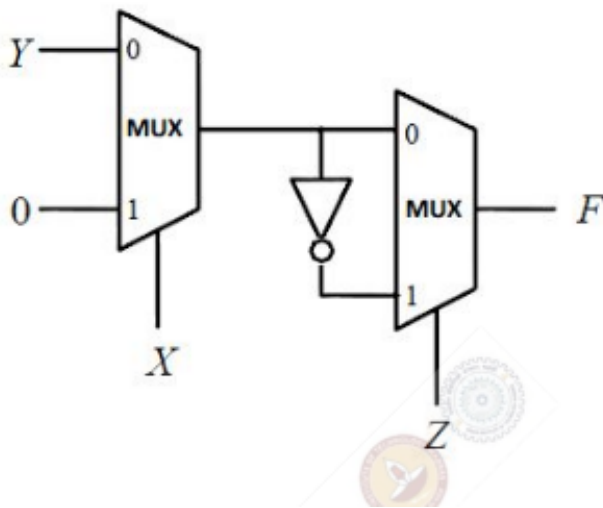

Fig. 3.10
21. Find the logic function implemented by the circuit given below in Fig. 3.10 (GATE EC 2017)